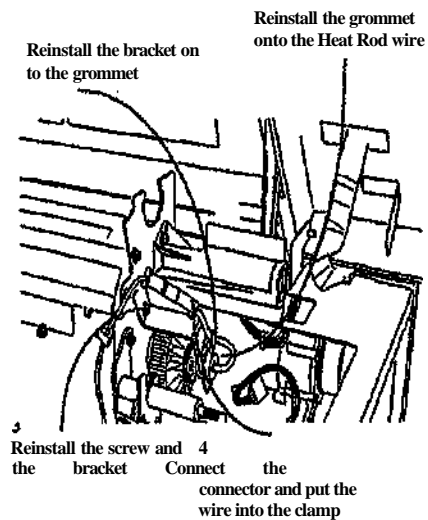

Figure 6. Reinstalling the Bracket (Right side)
3. (Figure 6): Reinstall the grommet and the bracket (Right side).